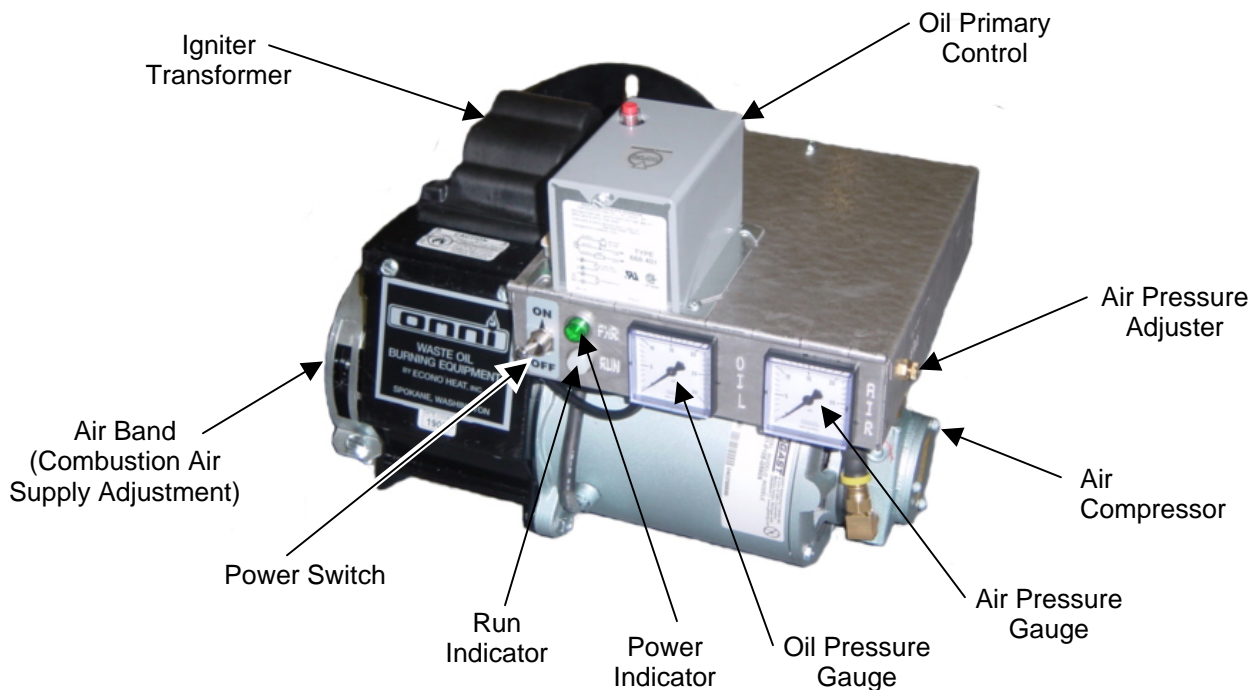
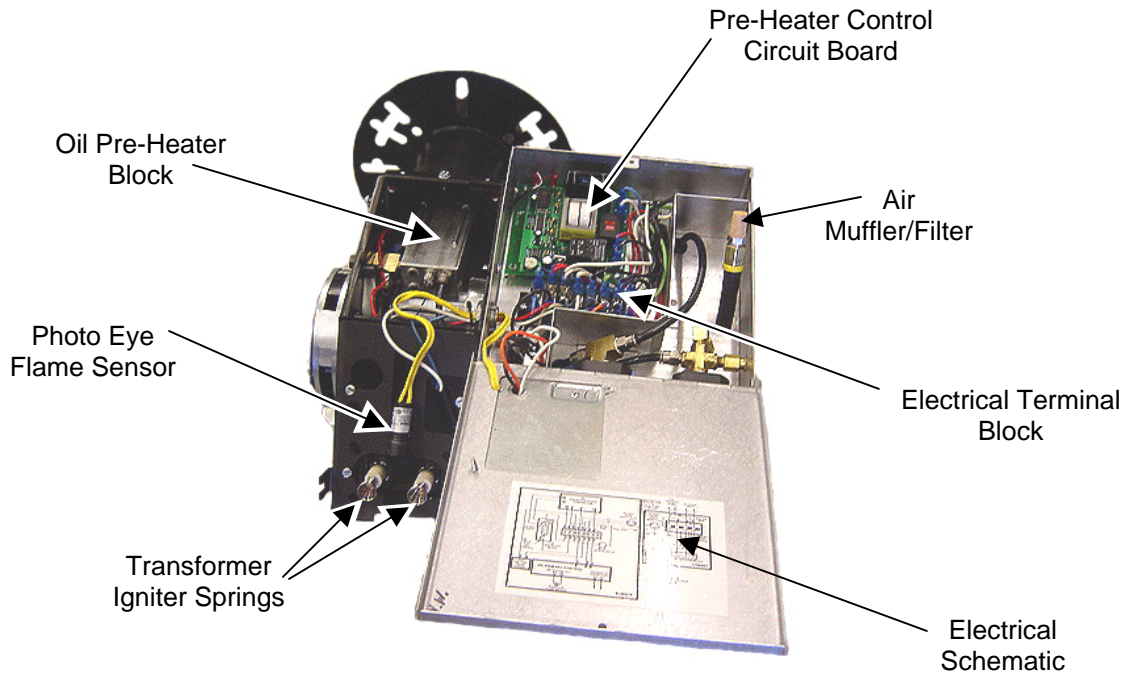

Figure 1 – Oil Burner (Back View Closed)
Figure 2 – Oil Burner (Back View Opened)
Omni's patented burner technology improves the efficiency of the oil burn process by continuous stabilization of the oil viscosity. Optimum atomization (spray) is accomplished by precisely pre-heating the oil and air prior to introduction to the combustion chamber. The waste oil enters into the Oil Pre-Heater Block (figure2) and is pre-heated to operating thermo setpoint, then compressed air from the air compressor (figure1) is mixed with the oil prior to spraying out the nozzle similar to fuel injection, by breaking up the oil droplets into a finer mist or spray (atomization). Electrodes mounted just above the nozzle (figure3) provides continuous electrical arc across electrode to electrode igniting the fine oil mist as it sprays out of the nozzle. Once ignited the flame is forced into a swirl caused by the burners blower and specially designed flame cone (figure3) providing a very efficient and thorough burn of the waste oil.
- **Igniter Transformer:** (figure1) Supplies high voltage to the electrodes generating electrical arc igniting the oil.
- **Air Band:** (figure1) Adjusts amount of air introduced into the combustion chamber.
- **Oil Primary Control:** (figure1) Controls the oil burner ignition. Checks for flame in the combustion chamber, if no flame is detected within 45 seconds, the oil primary will shutdown the oil burner. To restart the unit, reset the red button on the oil primary.
- **Oil Pre-Heater Block:** (figure2) Pre-heats the oil and air before entering combustion chamber.
- **Photo Eye:** (figure2) Senses flame in combustion chamber and signals oil primary when no flame is present.
- **Igniter Springs:** (figure2) Transfers the high voltage from the igniter transformer to the electrodes (when door is closed)
- **Air Pressure Gauge:** (figure1) Displays air pressure supplied by onboard air compressor.
- **Air Compressor:** (figure1) Supplies air used within pre-heater block to aid in atomization of the oil.
- **Air Muffler/Filter:** (figure2) Filters air and muffles the sound generated by the compressor.
- **Pre-Heater Control Circuit Board:** (figure2) Precisely controls temperature of the Oil Pre-Heater Block and controls safety feature of not allowing burner to energize until oil has established operating thermo setpoint or shutdown burner if Pre-Heater Block temperature falls below shutdown thermo setpoint.
- **Air Pressure Adjuster:** (figure1) Adjusts the air pressure going to the pre-heater block. Should be adjusted between 12 PSI and 13PSI as indicated on the Air Pressure Gauge on the burner for thorough burn of the waste oil.
- **Oil Pressure Gauge:** (figure1) Displays oil pressure at the burner. Adjustment at the Oil Pump must be made to achieve oil pressure readings at the burner as indicated below.
- **Power Indicator:** (figure1) Indicates when power is present at the burner.
- **Run Indicator:** (figure1) Indicates that the burner is ready for operation after the initial pre-heat time of approx. 5 minutes from initial power up.
- **Power Switch:** (figure1) Switches power off and on to the burner. NOTE: Not applicable on OWH Series Furnaces.
3. Depending on application, wire low voltage thermostat into "T" terminals on the Oil Primary (figure 1) or jump "T" terminals for continuous operation.
3. Making sure the thermostat is turned off, apply power to the burner. Switch burner main power switch to ON position. After allowing the oil pre-heater time to establish temperature setpoint, approximately 5 minutes. Jump the "T" terminals on the Oil Primary (figure 1). Once the burner is running, temporarily jump the "F" terminals on the Oil Primary. This will allow the burner to run during the pump priming process.
6. Combustion air band (figure1) should be open approximately 1/2" or until flame is clear yellow, not orange. Opening the air band too far may cause delayed in starting or even prevent the flame from starting.